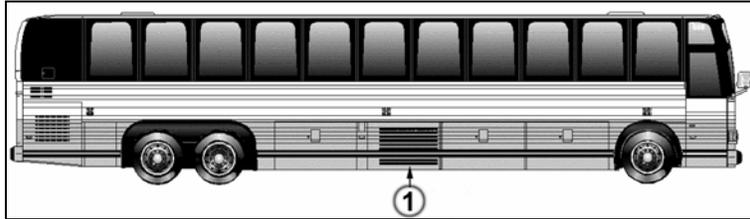

FIGURE 1 : (1) CONDENSER COMPARTMENT
2. Open the condenser compartment door (figure 1).